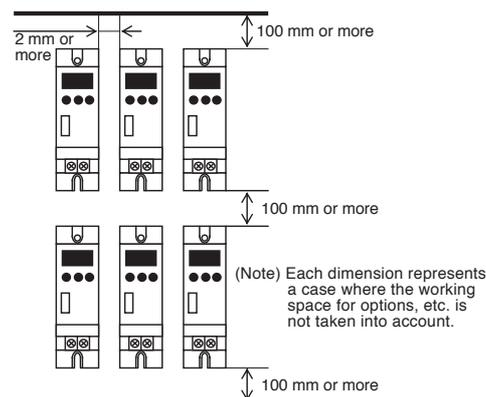

Fig. 1 Installation spacing
- (1) Install in a dust-free place with high cooling effect. To ensure heat radiation from APRs, mount the APR on a vertical metal surface, make sure the vertical mounting direction is as shown in the Figure 1, and provide sufficient space both vertically and horizontally. If placing APRs closely to one another, ensure sufficient space beyond the dimensions indicated in Figure 1 to reduce heat interference among the APRs.
- (2) Heat generation of an APR raises the temperature inside the panel. In consideration of expected temperature rises, implement measures such as cooling and ventilation. (The maximum temperature inside the panel is 55°C.) The reference ambient temperature for the rated current is 40°C. When it exceeds 40°C, reduce the load current.
- (3) Ensure sufficient space with nearby objects in consideration of the work space required for wiring tools at individual terminals.
- (4) The top of an APR has a partial opening. Be careful not to drop any object into the opening.